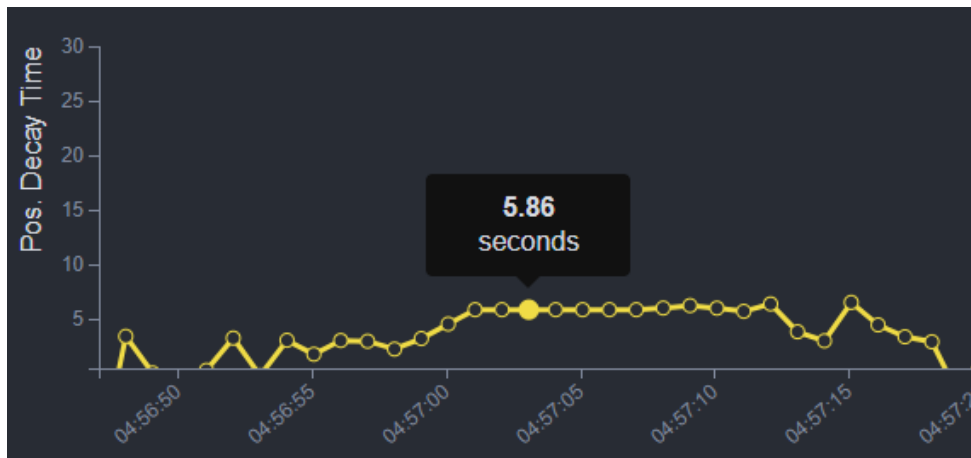

Figure 4.6 View chart's data points
*Tip – To view the value (y-axis) at a stamped time (x-axis), simply select the data using your finger (Figure 4.6).